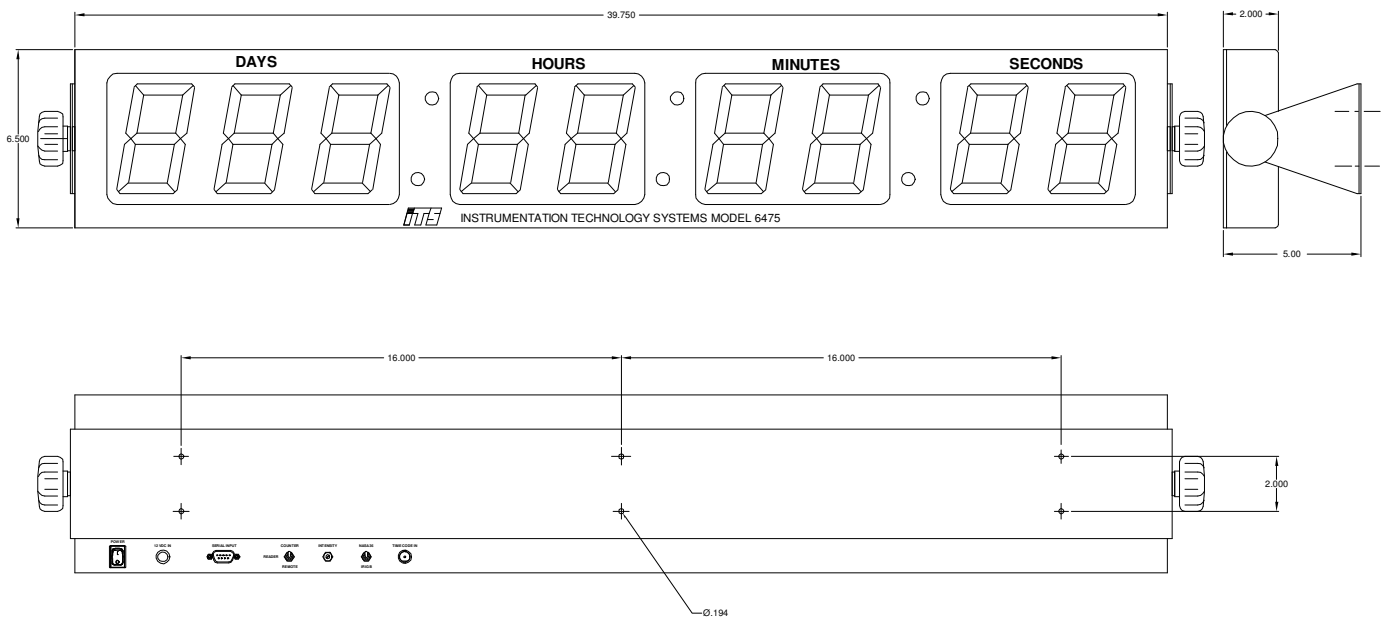

Figure 1
3.0 MECHANICAL CONFIGURATION (Figure 1)